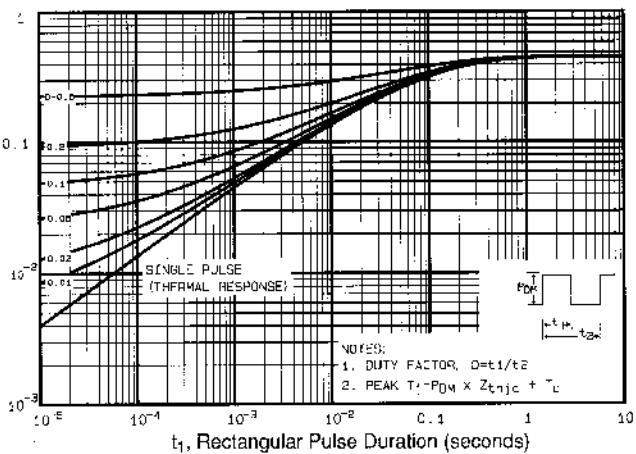

Fig 11. Maximum Effective Transient Thermal Impedance, Junction-to-Case
① Repetitive rating; pulse width limited by max. junction temperature (See Figure 11)
② $I_{SD}\leq 23\text{A}$, $dI/dt\leq 170\text{A}/\mu\text{s}$, $V_{DD}\leq V_{(BR)DSS}$, $T_J\leq 150^\circ\text{C}$